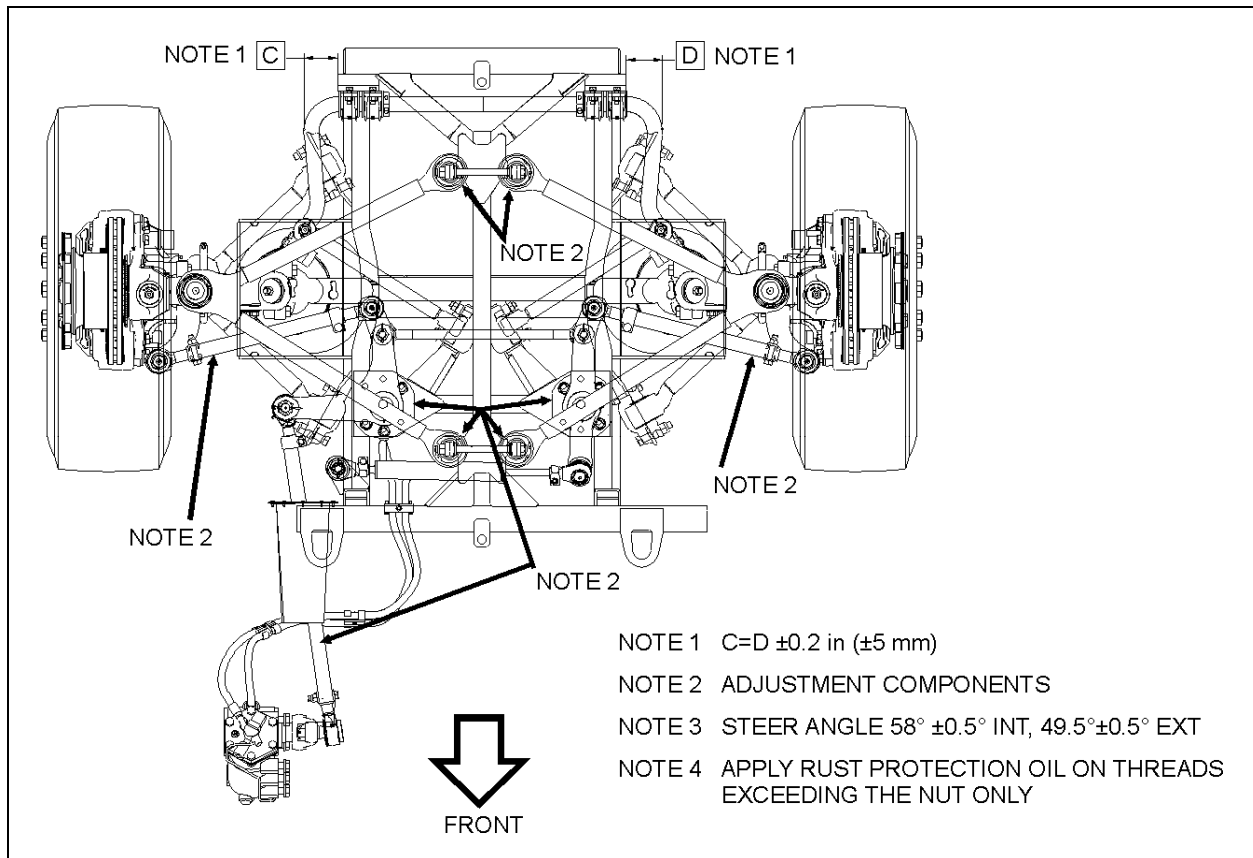

FIGURE 26: NOTE 2 INDICATES WHERE ADJUSTMENT MAY BE PERFORMED IF NEEDED WHEN PROCEEDING TO IFS ALIGNMENT
2. Using a pipe wrench, turn the tie rod tubes to obtain the toe-in measurement specified in step 5 under paragraph "Toe-in Check" (figure 26).
Caster variations may be caused by bent upper suspension A-arm, lower suspension A-arm, or kingpin housing. Caster should be adjusted with shims. Precision instruments should be used to measure caster. Shim bell crank and idler arm to adjust caster (figure 26).
See figure 26 & 27.